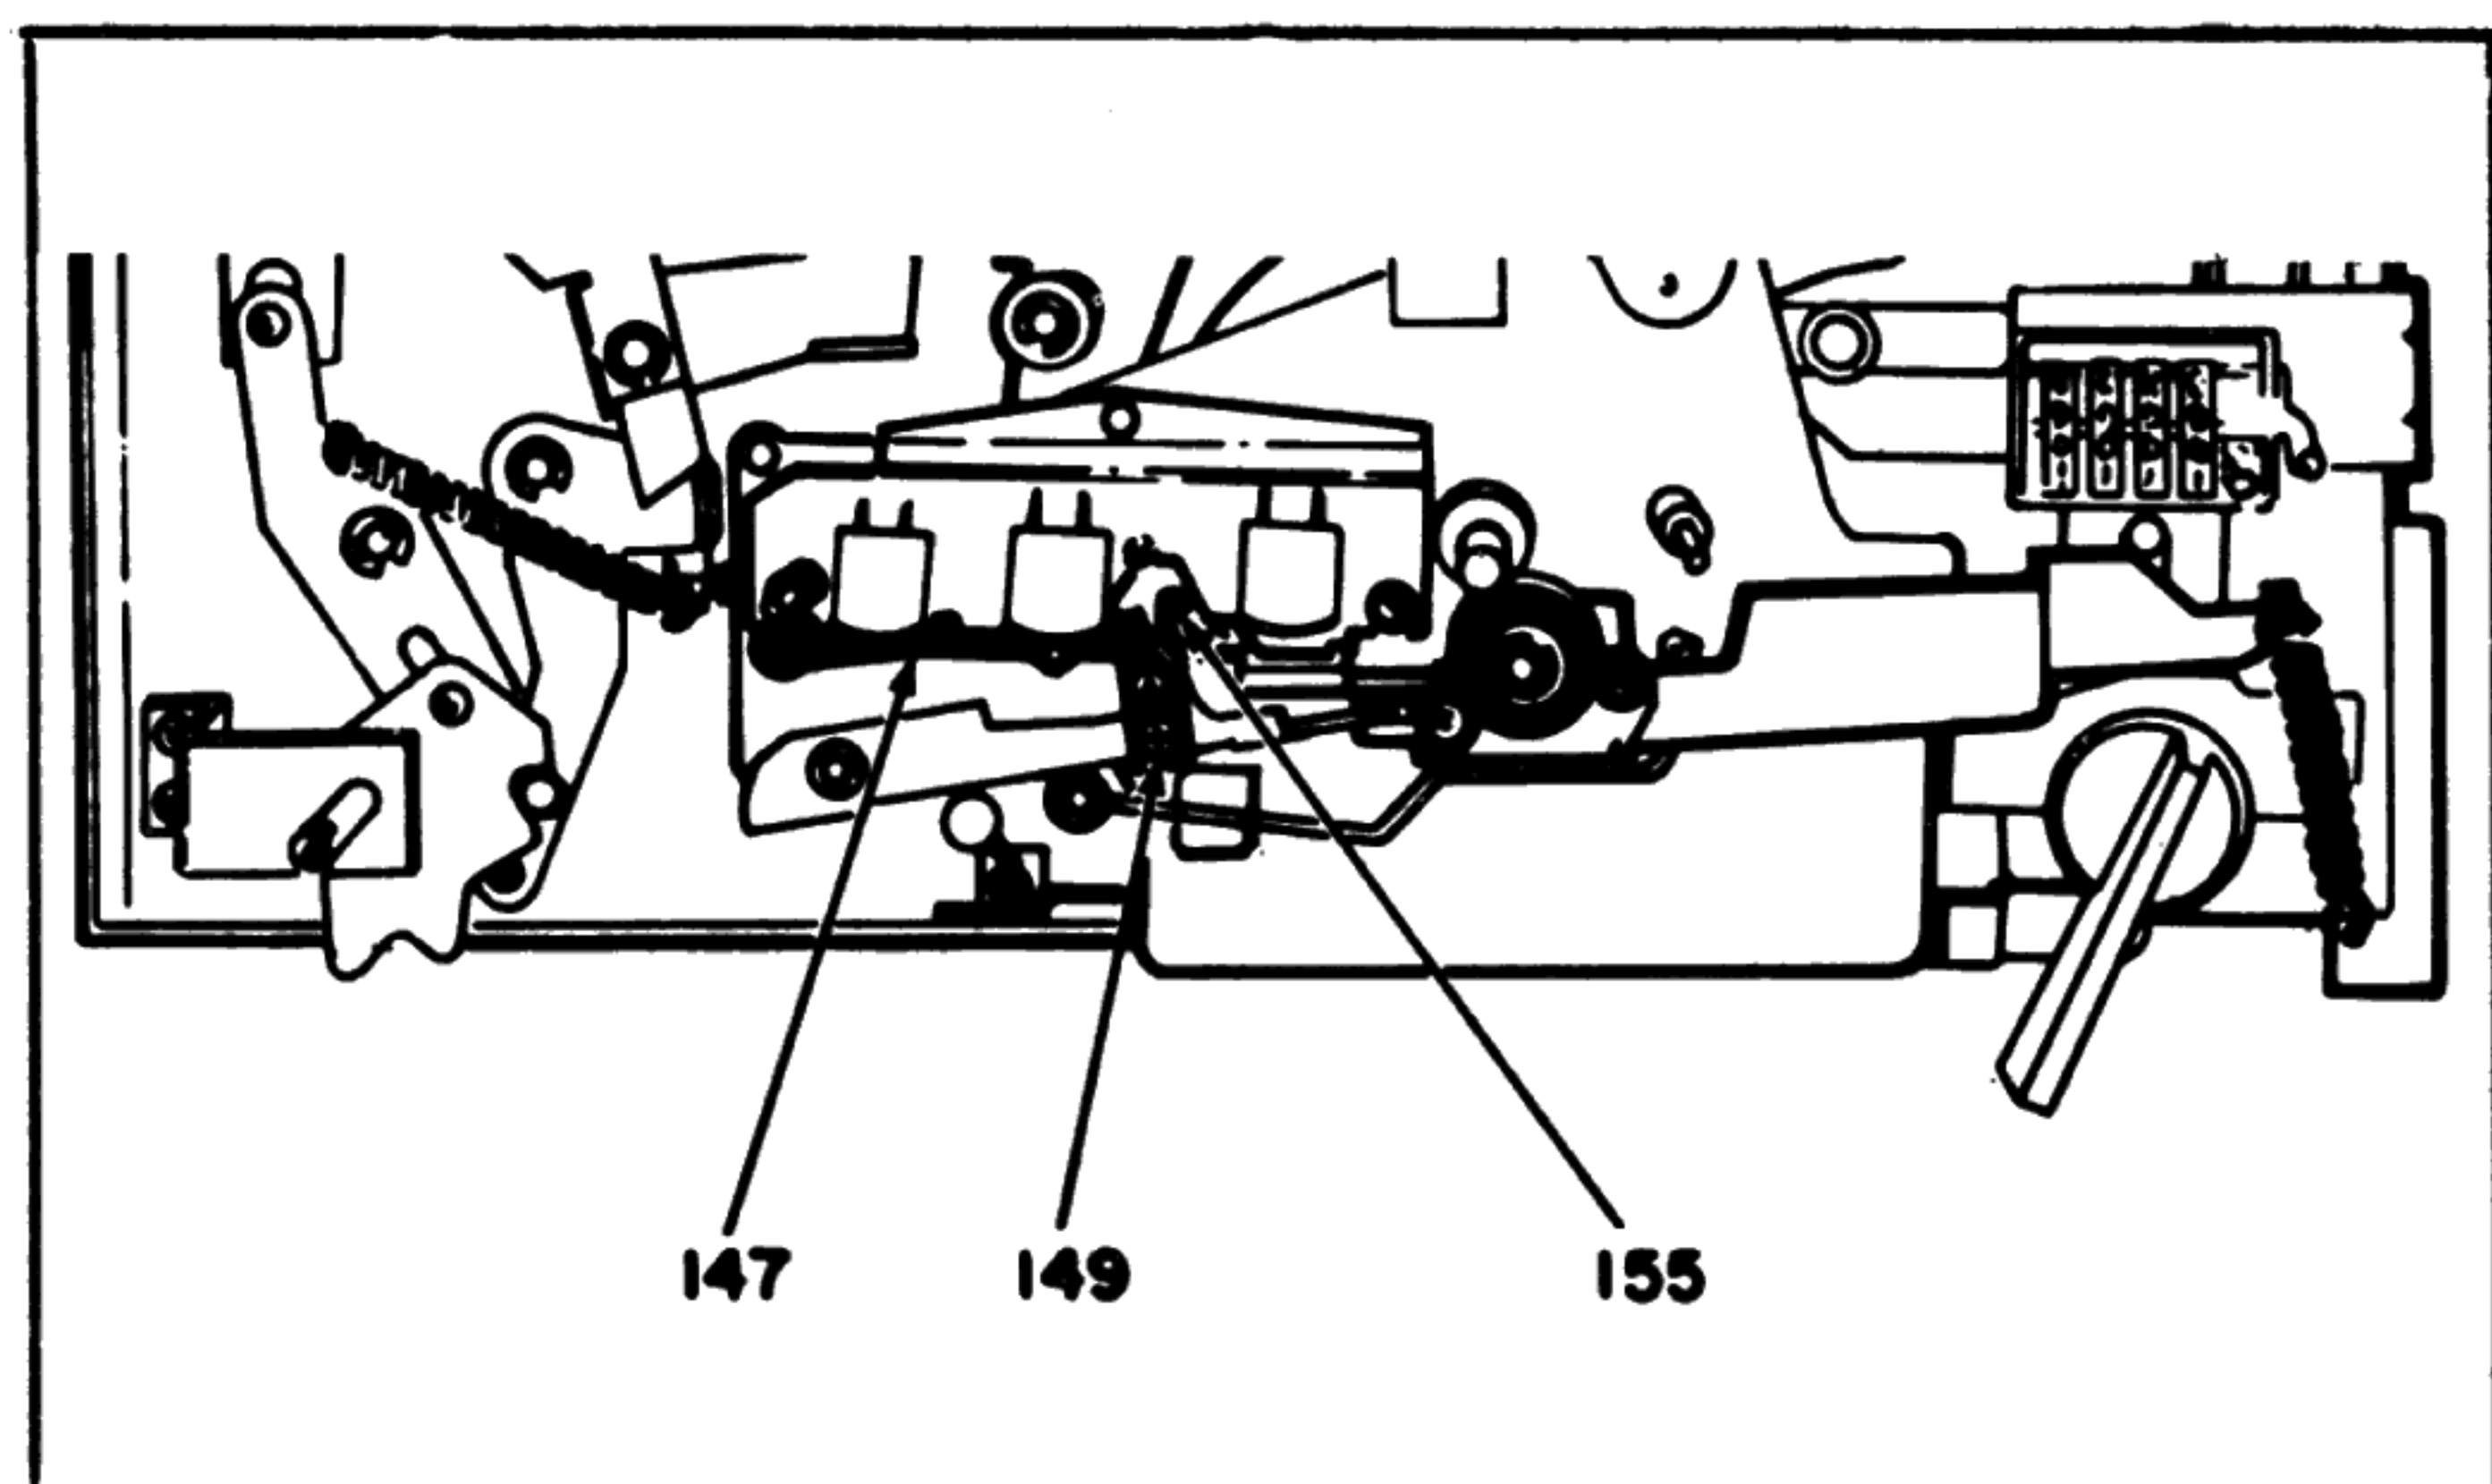

Figure 21. Tape Lifter Adjustment
The tape lifter plate (147) alignment is adjustable. The fingers should be parallel to head faces in PLAY. This can be adjusted by turning the screw (155) located on the lifter plate assembly between the record and reproduce heads. See Fig. 21. Misadjustment of this screw causes unequal levels between channels.